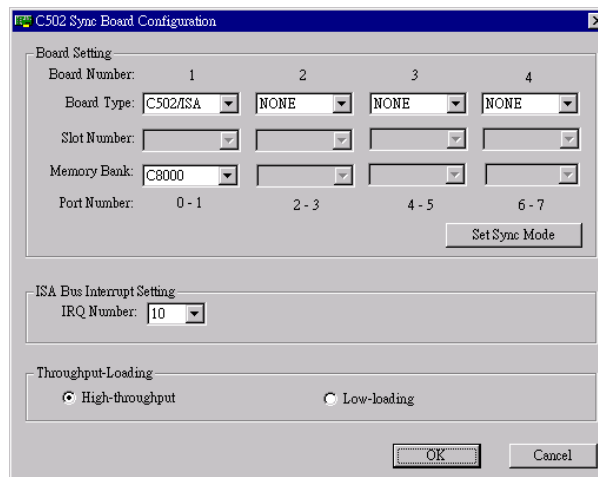

Figure 3-3
4. Click on **Set Sync Mode** in Fig. 3-3 to select the synchronous mode. You must set at least one board for the **Set Sync Mode** button to be active.
5. “Throughput-Loading” shown in Figure 3-3 has two options. You may choose either “High-throughput” or “Low-loading.”